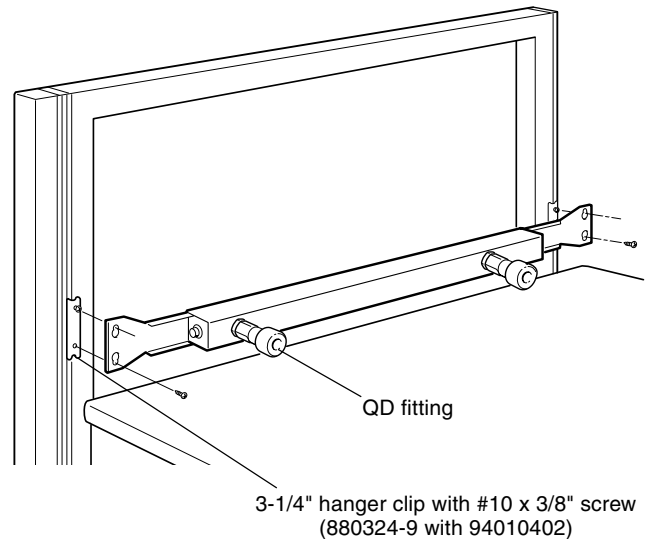

Figure 1
3. Align large end of keyhole slots with screws. Slide strip down over screws to engage. Install two screws in lower holes and securely tighten all screws. (Figure 1)